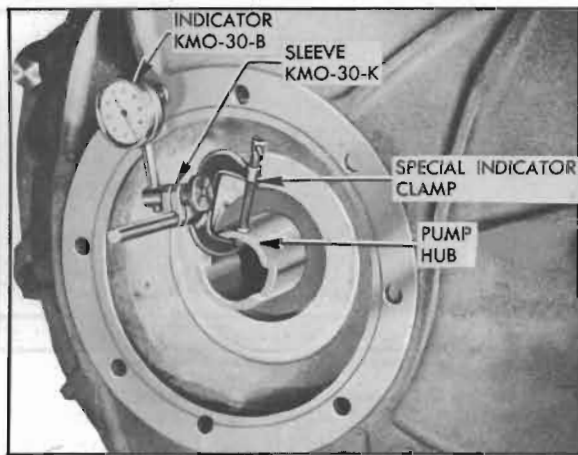

Figure 5-67—Checking Run-Out of Rear Face of Bell Housing
5. Attach the special dial indicator clamp to the oil pump driving lug on rear end of converter pump hub. **CAUTION: Do not clamp to bearing surface on hub.** Mount Dial Indicator KMO-30-B to bear against rear face of housing at a radius of  $3\frac{3}{4}$ ". See Figure 5-67.